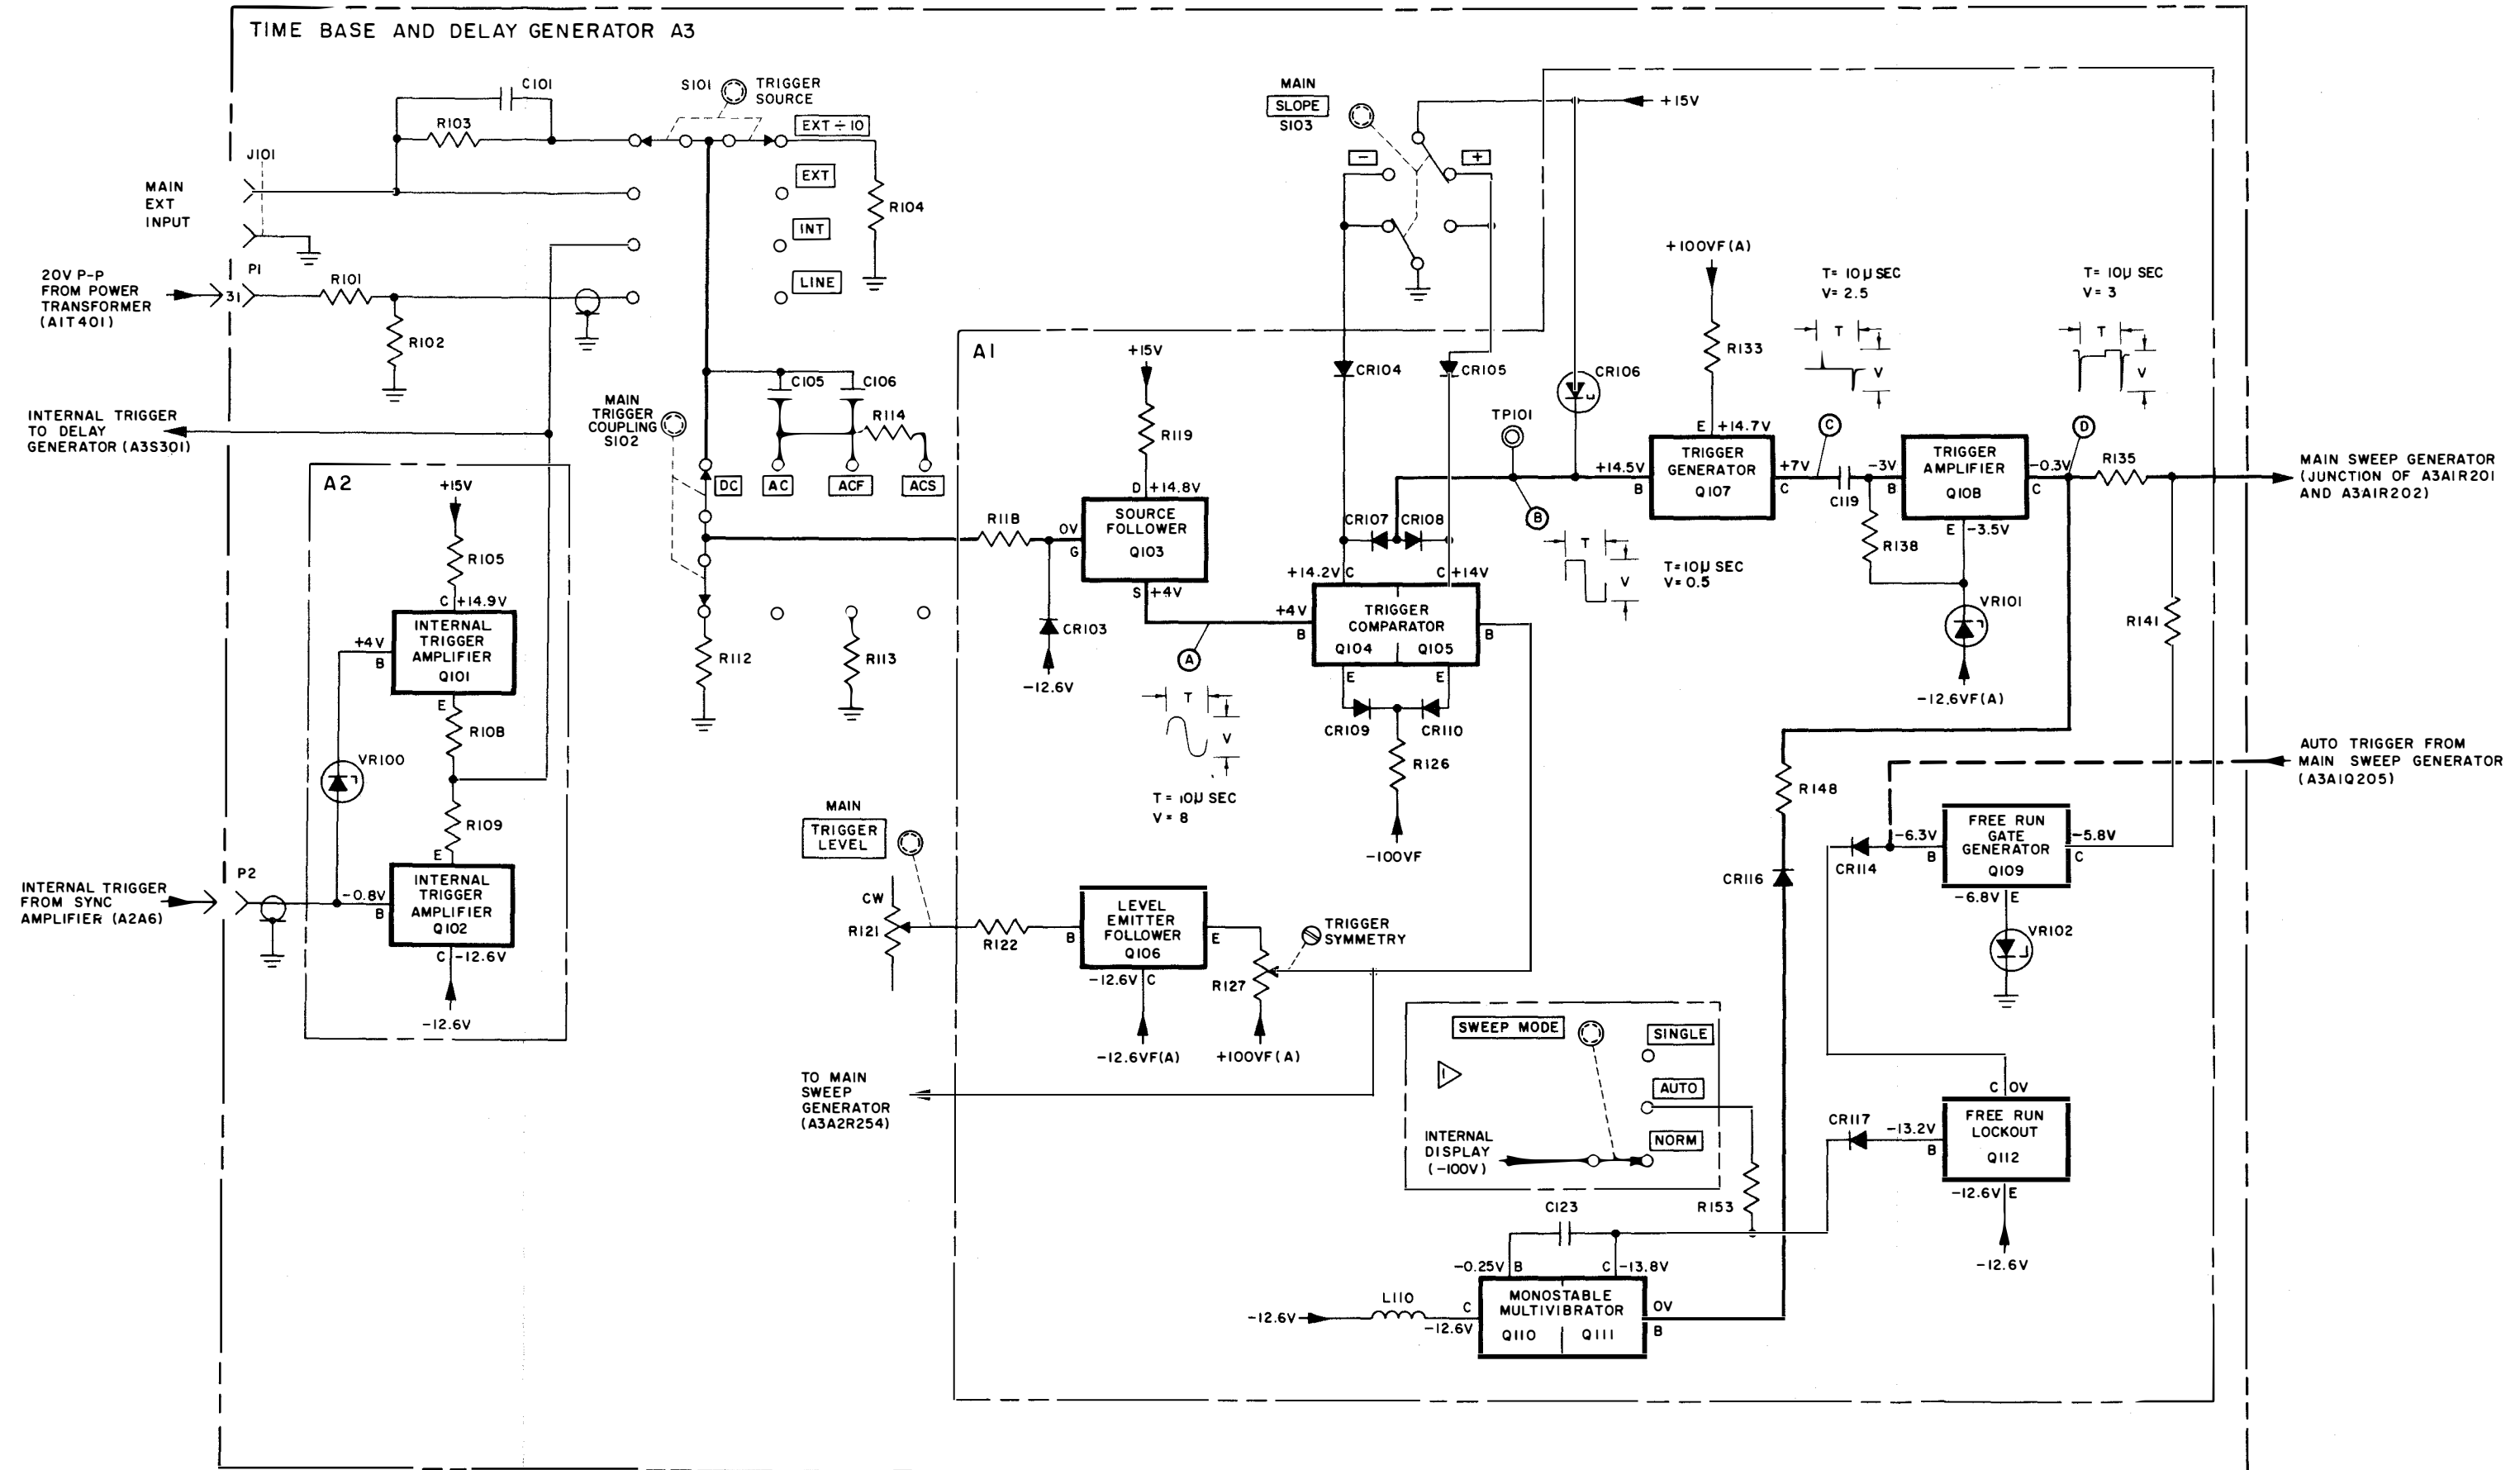

Figure 4-12. Main Trigger Generator and Amplifier Functional and Servicing Block Diagram
not be stabilized by adjusting the main TRIGGER LEVEL, set the SWEEP MODE to NORM and observe the display. If the display remains on the CRT (stable or unstable), the trouble is probably in the main trigger generator and amplifier functional section. If the display disappears, the trouble is probably in the sync amplifier. Further isolate the malfunction by connecting the CALIBRATOR 10V output to the main EXT INPUT and setting the main trigger source to EXT ÷ 10. If a stable trace appears, the trouble is in the sync amplifier or in the internal trigger amplifier (A3A2Q101/A3A2Q102) in the time base and delay generator (figure 4-12). If a display can not be obtained by adjusting the main TRIGGER LEVEL, the trouble is in the main trigger generator and amplifier functional section.
b. MAIN TRIGGER GENERATOR AND AMPLIFIER TROUBLE SHOOTING. - The trouble-shooting chart for the main trigger generator and amplifier functional section is provided in table 4-11 and the servicing block diagram is shown in figure 4-12. A trouble in this functional section will usually cause an unstable main display or no display at all. To isolate a trouble to this functional section, connect the CALIBRATOR 250MV output to one of the vertical inputs and attempt to obtain a display (refer to Section 3). With the SWEEP MODE in AUTO, the main trigger source set to INT, and the main trigger coupling set to DC, a stable square wave should be displayed on the CRT. If the display can not be stabilized by adjusting the main TRIGGER LEVEL or if no display can be obtained, set the SWEEP MODE to NORM and observe the CRT. If the display was unstable in the AUTO mode and a stable display is obtained in the NORM mode, the trouble is probably in the monostable multivibrator (A3A1Q110/A3A1Q111) or the free-run lockout circuitry (A3A1Q112). See figure 4-12. If a display could not be obtained in the AUTO mode but a stable display is obtained in the NORM mode, the trouble is probably the free-run gate generator (A3A1Q109). If the display is still unstable or if a display cannot be obtained in the NORM mode; set the main trigger source to EXT ÷10, connect the CALIBRATOR 10V output to the main EXT INPUT and observe the CRT. If a stable trace is obtained, the problem is probably in the internal trigger amplifier (A3A2Q101/A3A2Q102) or the sync amplifier functional section. If the display is still unstable, the problem is probably in the main trigger generator and amplifier (A3A1Q103 through A3A1Q108). If a trace could not be obtained in either the AUTO or NORM modes, the problem could also be in the main sweep generator functional section.
c. USEFUL ILLUSTRATIONS. - Illustrations useful in maintaining this functional section are: Figures 4-12, 5-26, 5-27 and 5-32.